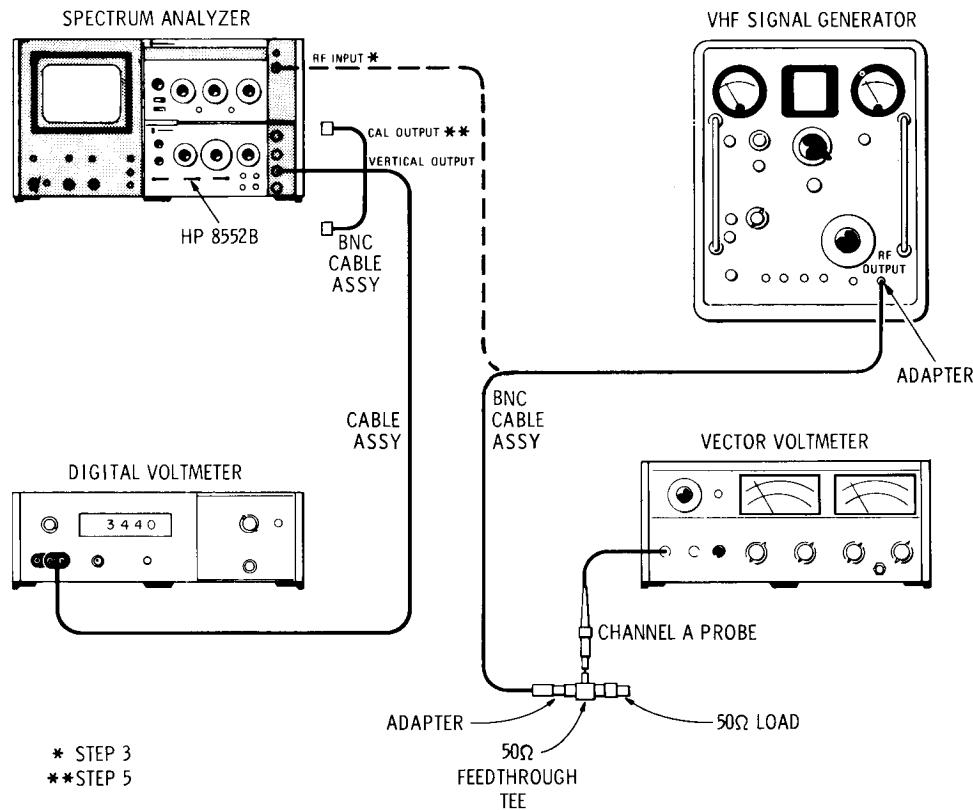

Figure 4-3. Calibrator Amplitude Test Setup
1. Connect the equipment as shown in Figure 4-3 and make the following settings: